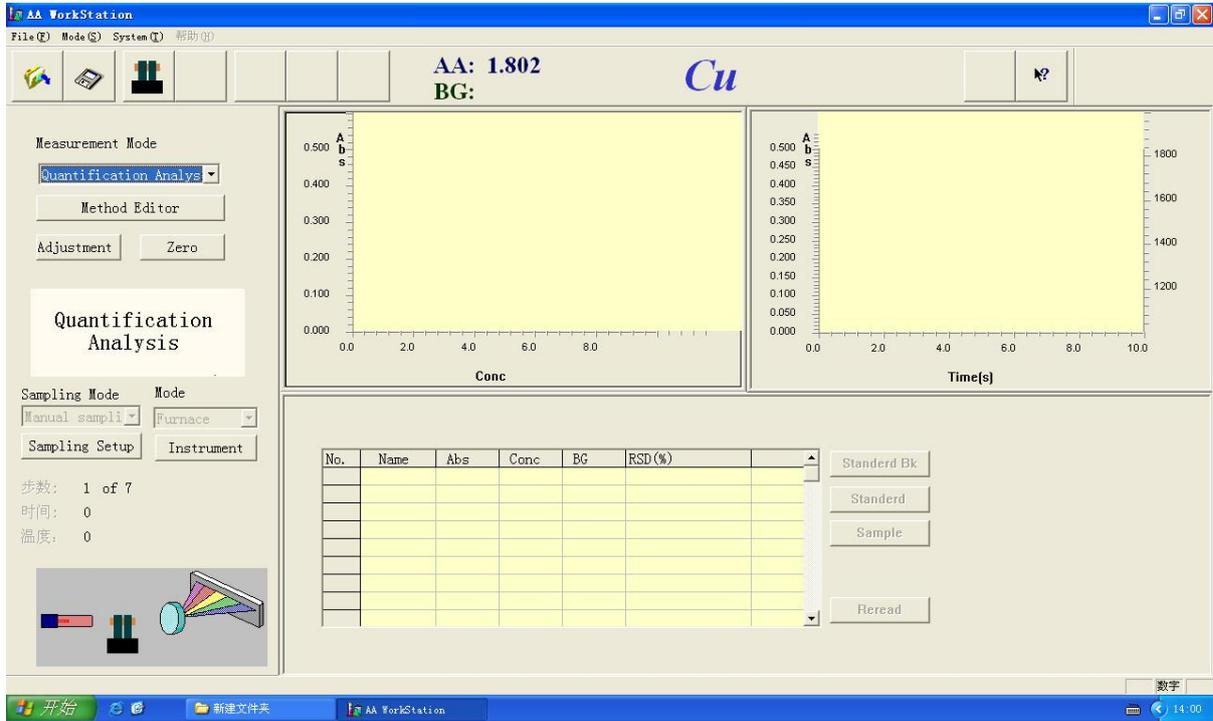

Figure 5-1b
3. Select "Quantification Analysis" in the "Measurement Mode" (Figure 5-1b)